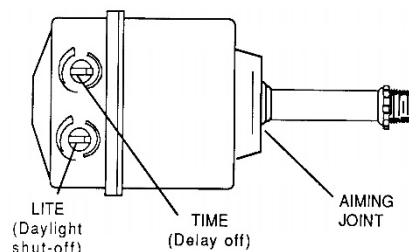

Figure 7
1. Turn the Light control and the Time control completely counter-clockwise to the Test position. See **Figure 7** for the location of the controls.
1. Turn the Time control (**Figure 7**) to mid-position.
1. The Light Level control was set counter-clockwise (the TEST position) so that it would operate even in daylight (**Figure 7**).